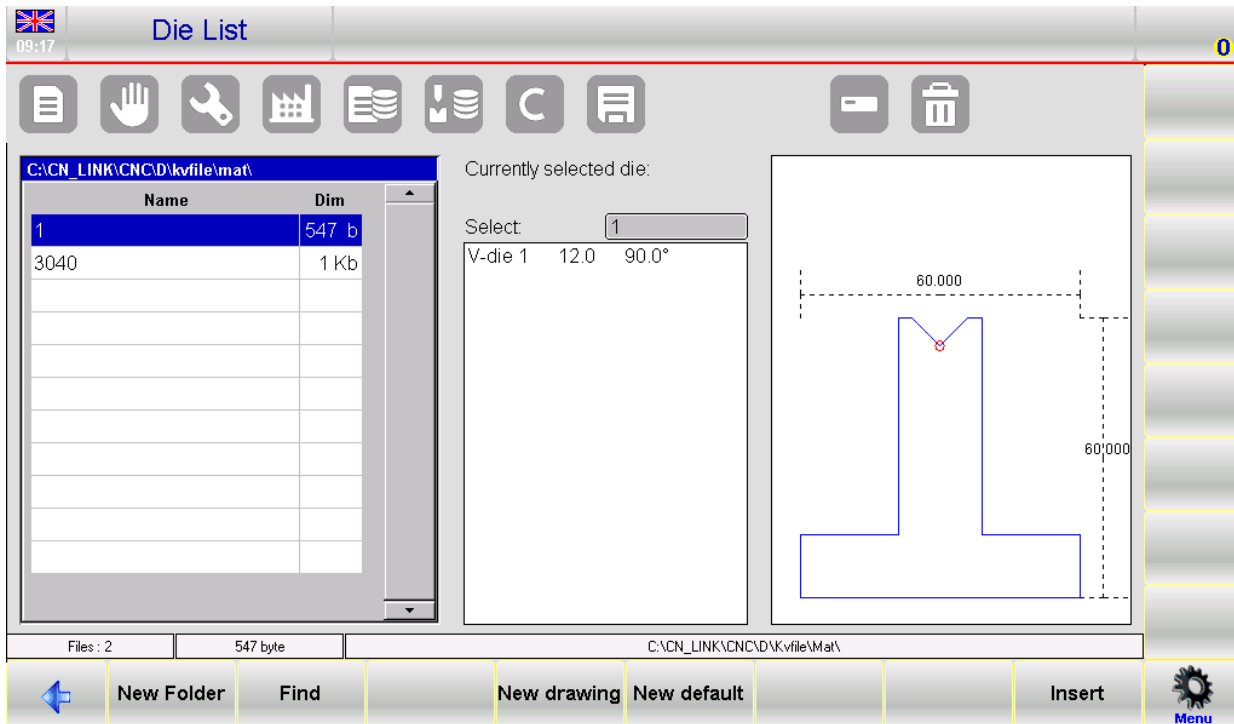

Figure 21 Die list page, example of die insertion
- enter the **die** that will be used from the list touching with a finger on the field, scrolling the toolbar in order to choose the die and pressing the button **[Insert]** (the die must already have been drawn), like showed in the figure 21.